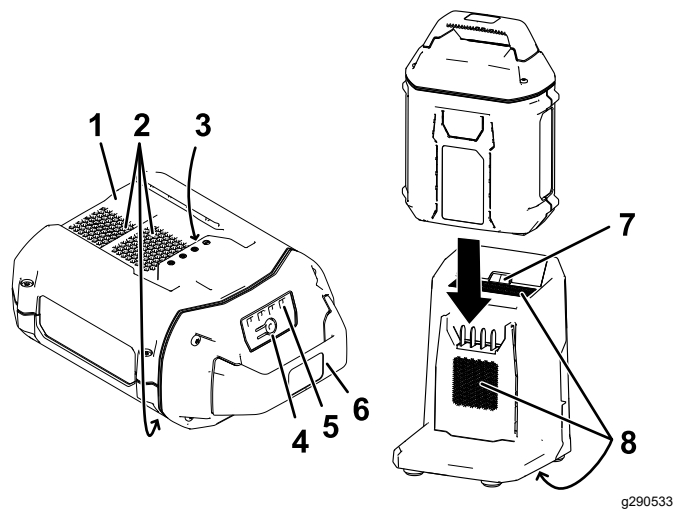

Figure 21
2. Line up the cavity in the battery pack (Figure 21) with the tongue on the charger.
3. Slide the battery pack into the charger until it is fully seated (Figure 21).